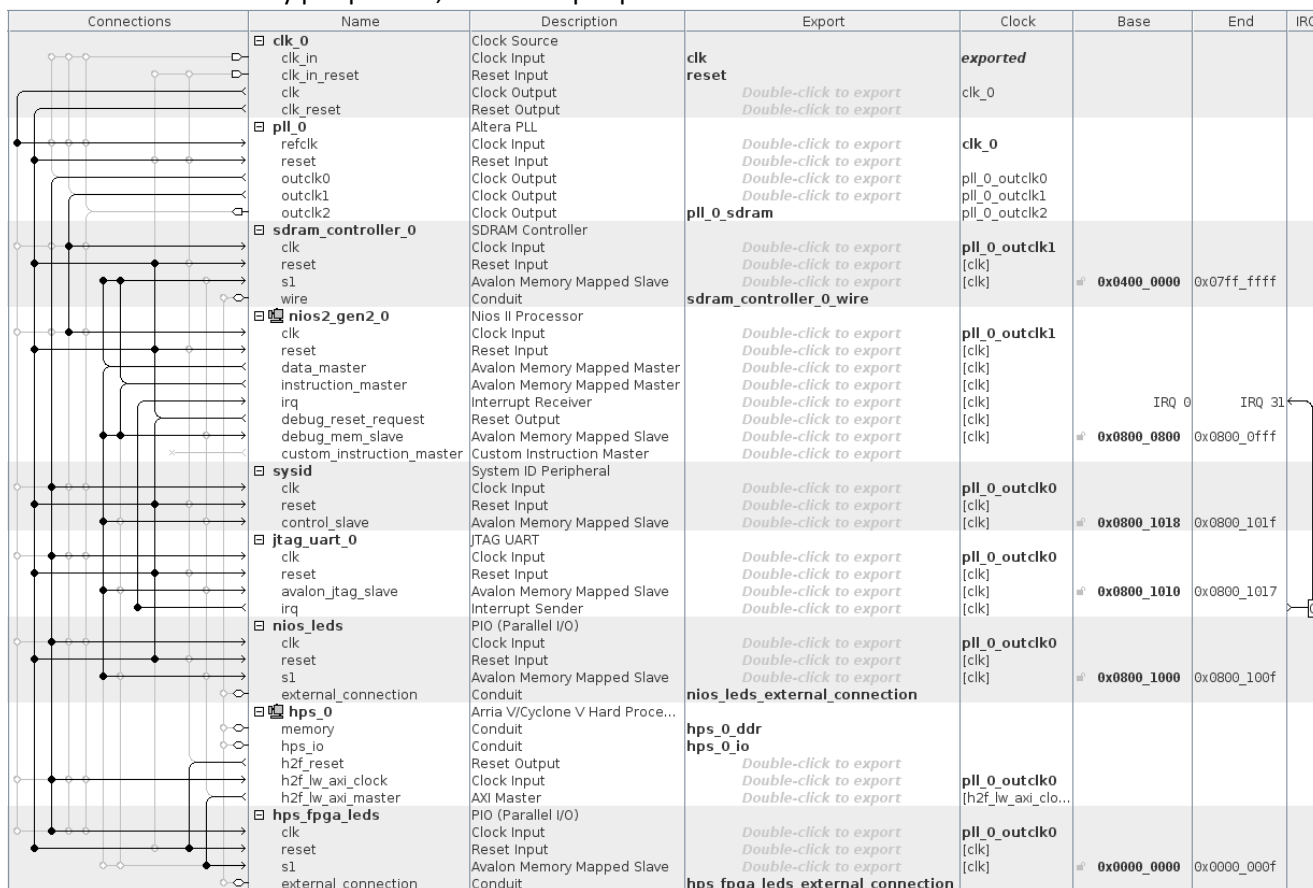

Figure 9-14. Adding Buttons and 7-segment Displays to the Lightweight HPS-to-FPGA Bridge
27. Connect the system as shown in Figure 9-14 below. Notice that we use “hps\_0.h2f\_reset” as the reset signal for the components connected to the HPS. This is a design choice so we can separately reset FPGA-only peripherals, and FPGA peripherals connected to the HPS.